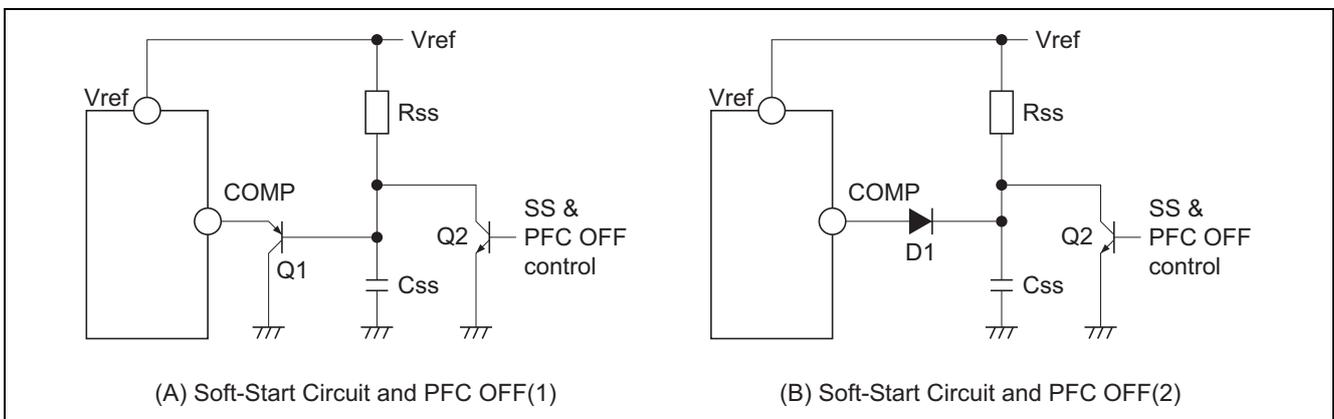

Figure 9
Please refer to the figure 9(A) when you use the Q1 such that the tolerance of E-B reverse voltage is larger than the Vref voltage. Please refer to the figure 9(B) when you can not use the Q1 described above.
The soft start time is defined by CR time constant in figure 9(A) case. It is defined with charging time of COMP pin source current in figure 9(B). Though the soft start time should be decided and adjusted by the degrees of an over shoot and an audio noise level.